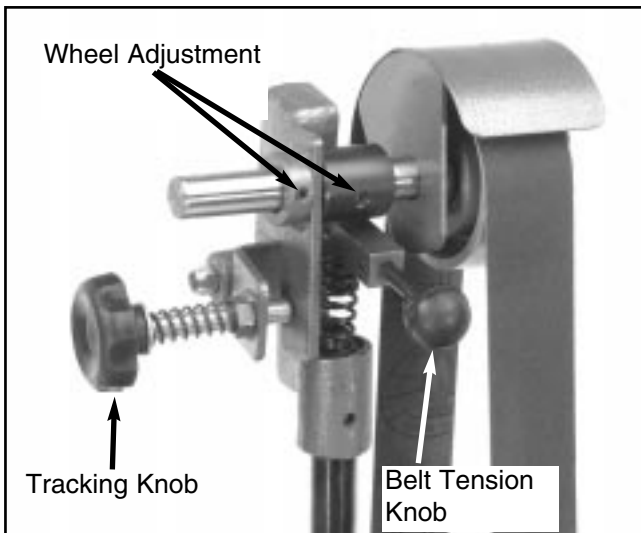

Figure 14. Upper arm tracking adjustments.
2. Continue to hand rotate the belt and with your other hand, turn the large tracking knob at the top of the arm right or left until the belt centers itself on the upper wheel. **See Figure 14.**